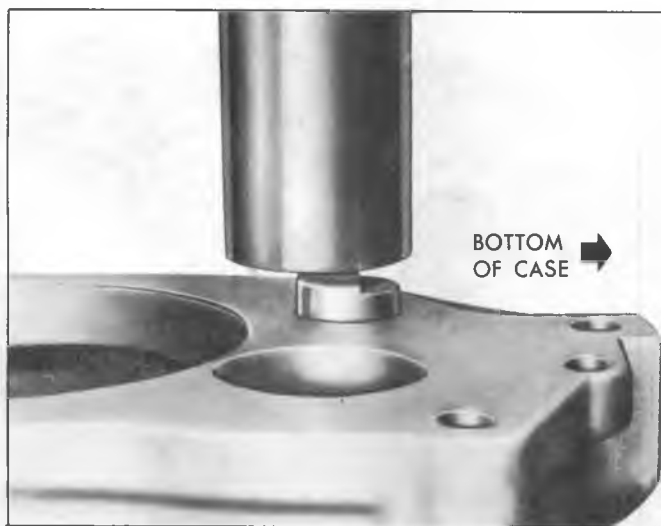

Fig. 16B—Installing Countershaft
5. Align countergear with shaft in rear and hole in front of case, and press countershaft into case (pushing assembly tool out front of case) until flat on shaft is flush with rear of case. Be sure thrust washers remain in place (fig. 16B).